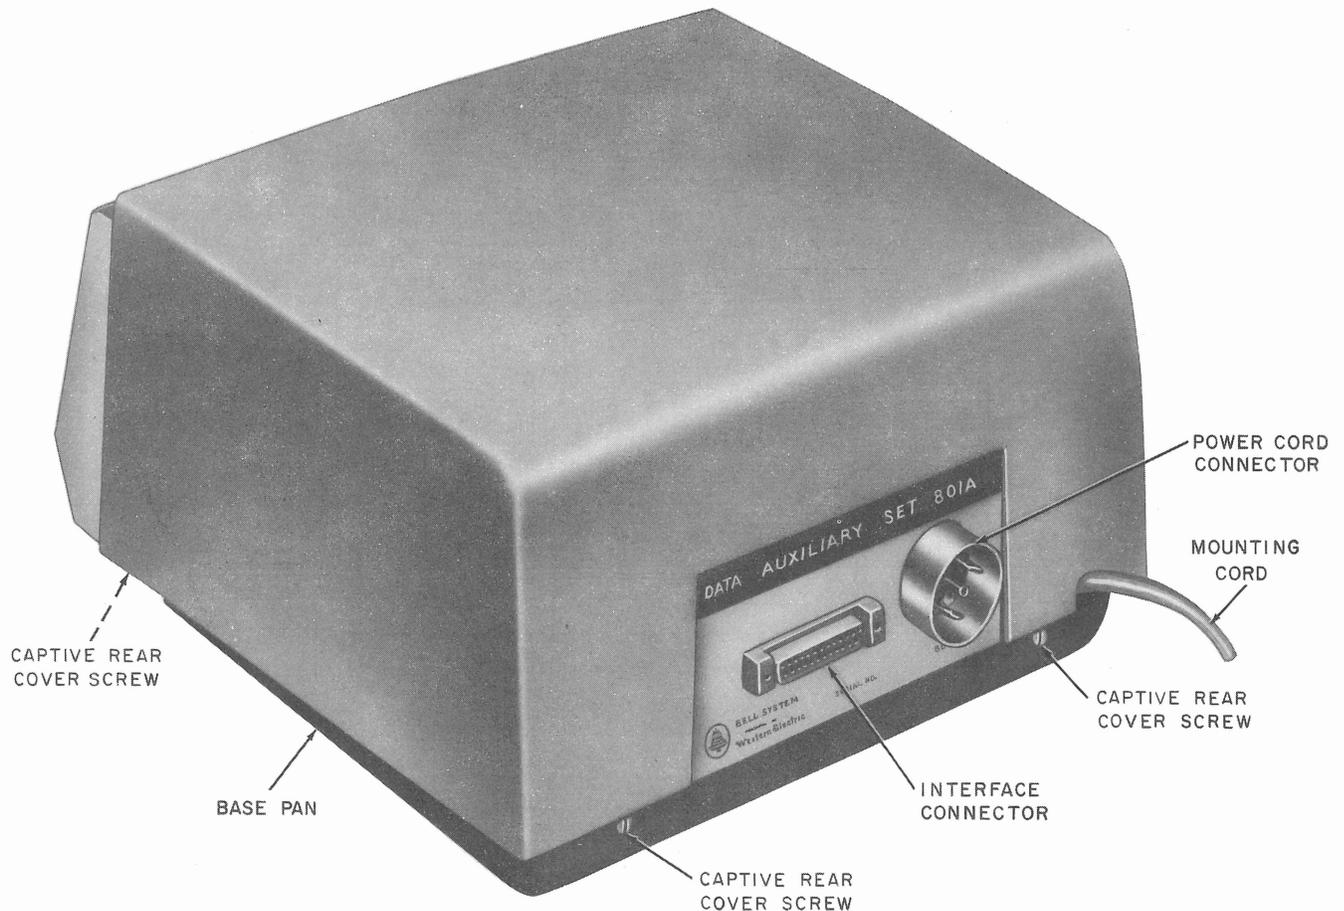

Fig. 2—Data Auxiliary Set 801A-Type, Rear View
2.04 The rear of each ACU (Fig. 2) contains a power cord connector, interface connector, and mounting cord.